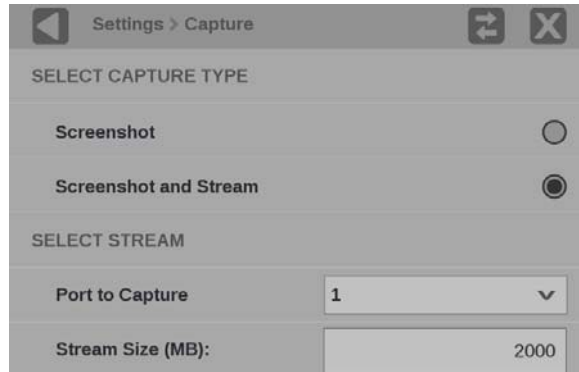

Figure 85: Selecting Screenshot and Stream
4. Select **Screenshot and Stream** under SELECT CAPTURE TYPE. (See Figure 85 **Error! Reference source not found.**)